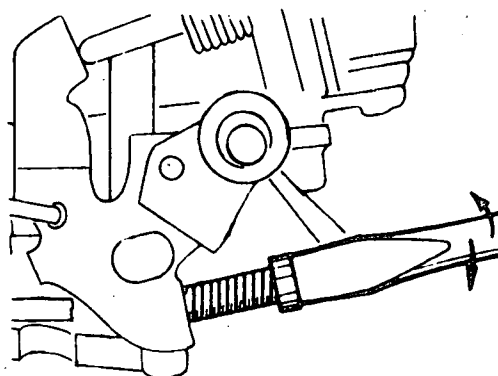

Fig. 3
- b) Adjust the idle speed screw (Fig. 3), to obtain the minimum number of revolutions specified.